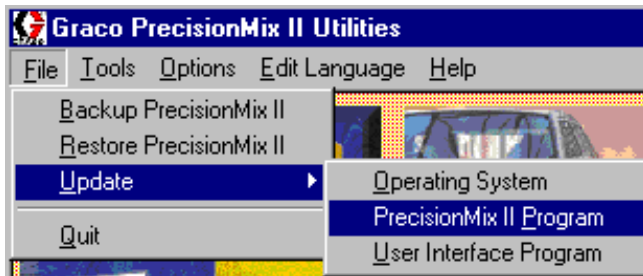
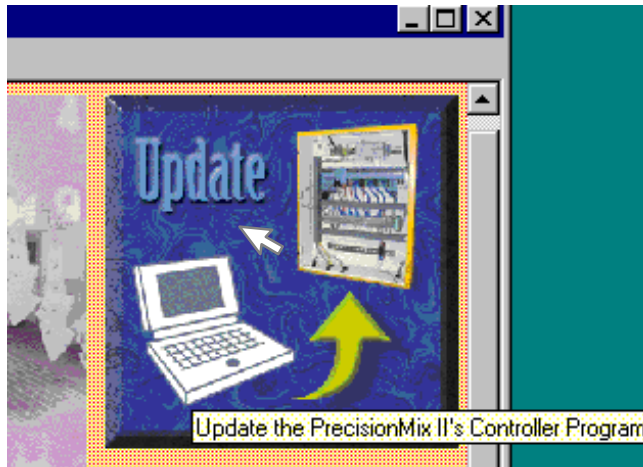

Fig. 13.28
Fig. 13.29
1. Select File ► Update ► PrecisionMix II Program (Fig. 13.28) or press the Update PrecisionMix II Program button (Fig. 13.29).